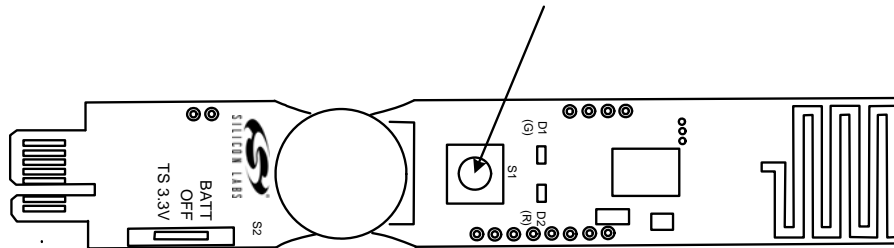

Figure 6. RF USB Node Button Press
7. Associate the board with the dongle and PC application, and press the button as shown in Figure 6.